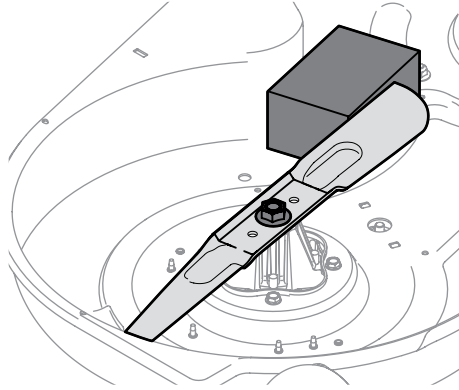

Figure 4-13
- Place a block of wood between the deck housing baffle and the cutting blade to act as a stabilizer. See Figure 4-13.
- Remove the hex flange nut that secures the blade to the spindle assembly. See Figure 4-13.